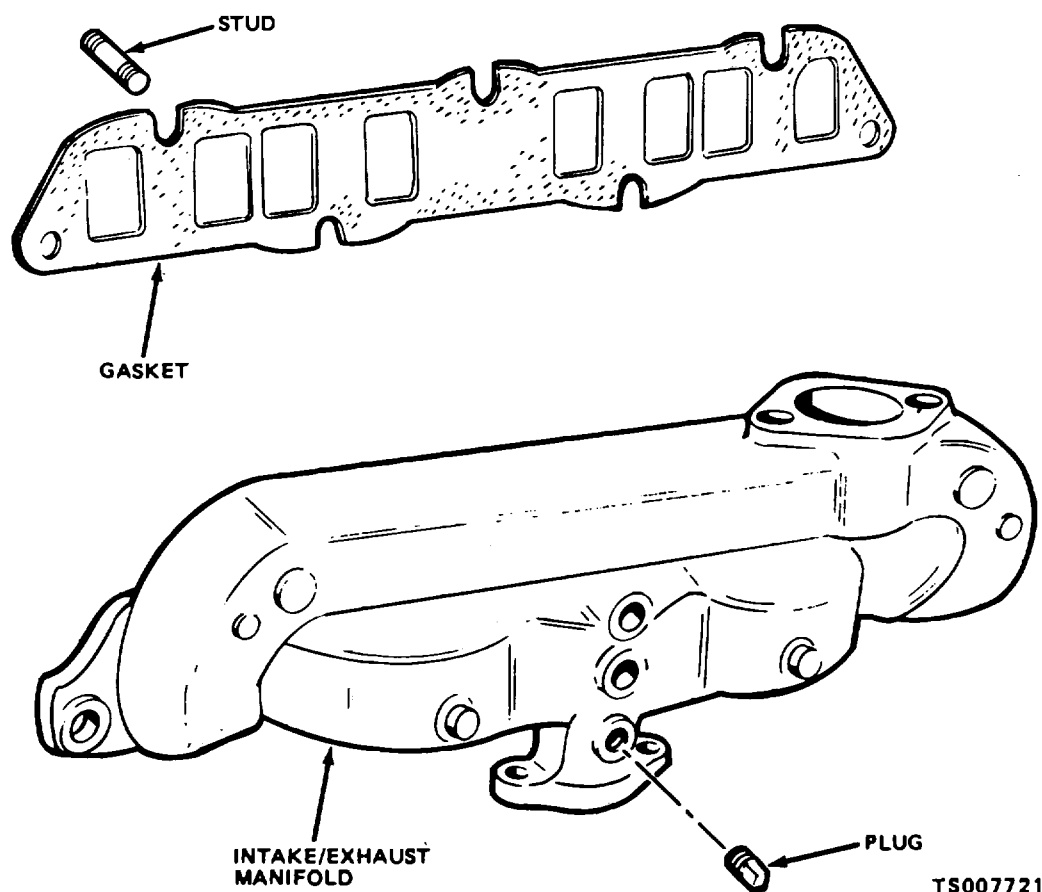

Figure 4-48. Intake and Exhaust Manifold, Removal and Installation
(3) Disconnect the positive crankcase ventilation piping from the intake and exhaust manifold (para 4-47).
(4) Refer to figure 4-48 and remove the intake and exhaust manifold from the engine.
(1) Refer to figure 4-48 and install the intake manifold, using a new gasket. Tighten the stud nuts to 25 to 30 foot-pounds.
(2) Install the positive crankcase ventilation piping on the manifold (para 4-47).